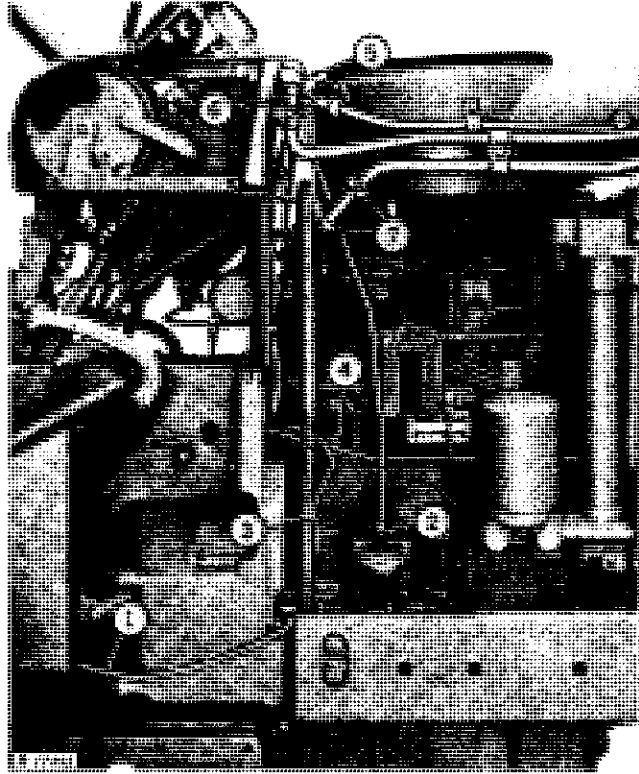

Fig. 4-Right-Hand Side Separation Procedures
1. Disconnect hydraulic pump oil seal drain tube (Fig. 4).